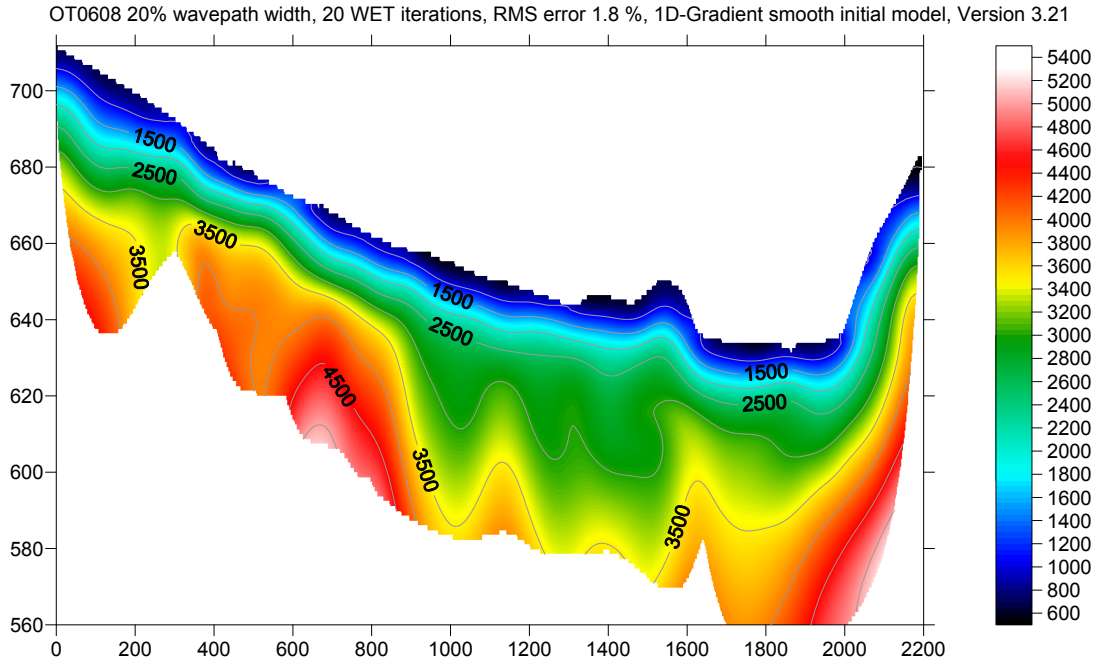
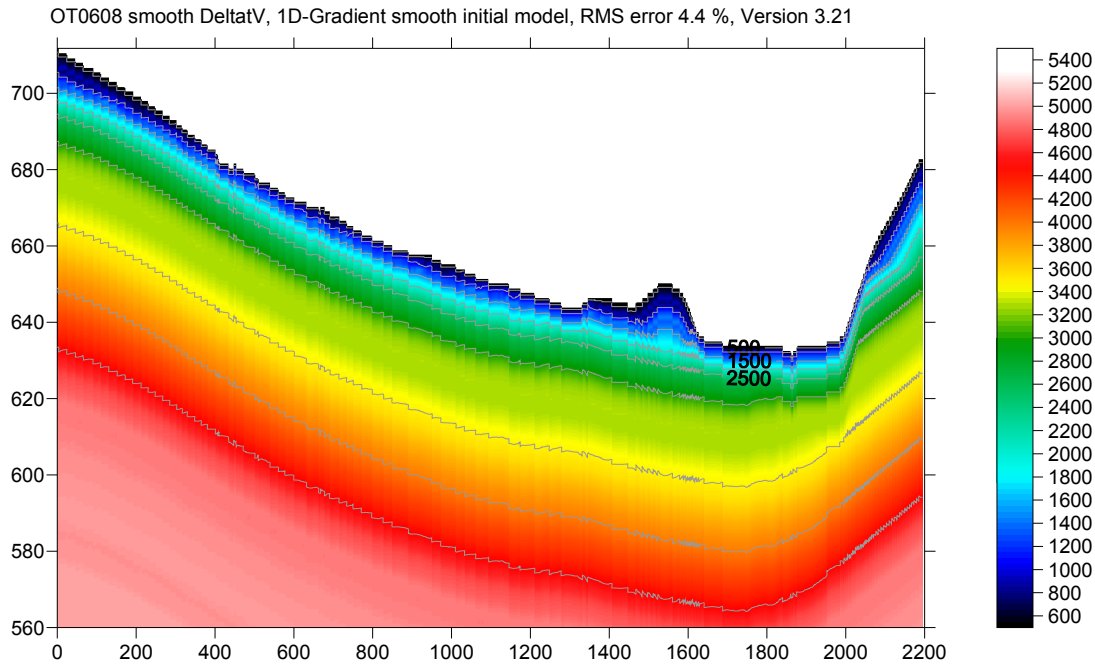
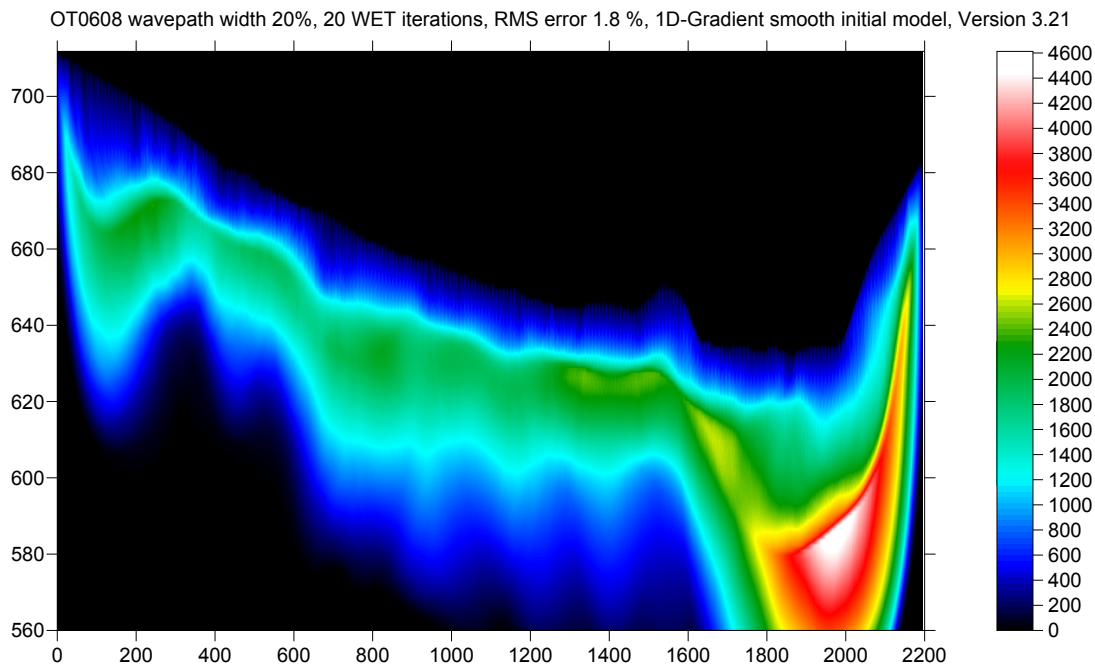
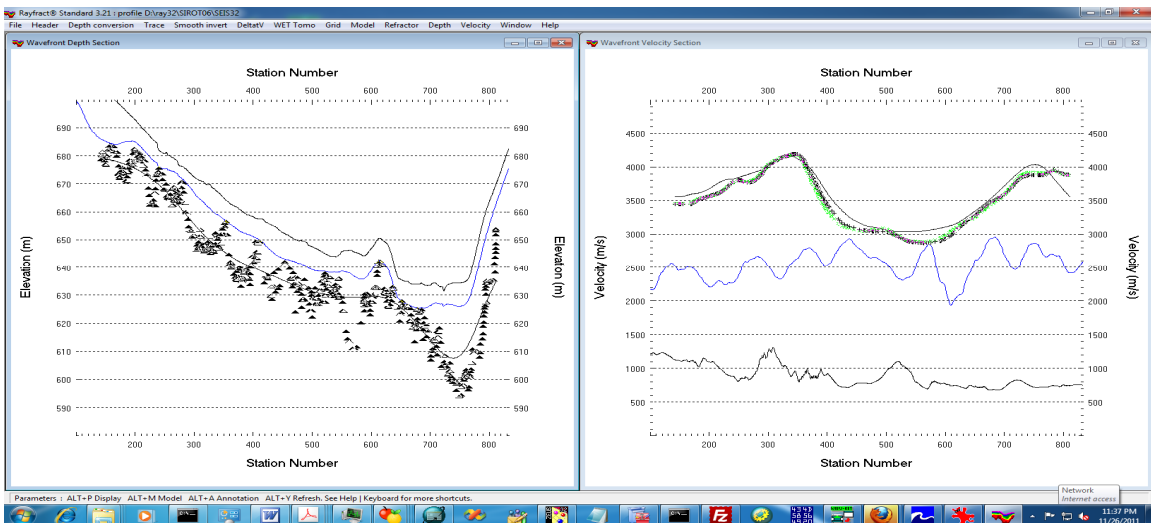

Fig. 1 : Smooth inversion 3.20, wavepath width 20%, 20 WET iterations. Fig. 3 shows 1D initial model used for Fig. 1.
Fig. 3 : 1D initial model used for Fig. 1, with Smooth inversion. Lateral DeltatV averaging, smooth DeltatV settings.
Fig. 4 : WET wavepath coverage, obtained with Smooth inversion (Fig. 1). Coverage of subsurface with first break energy.
Fig. 13 : Wavefront|Depth (left), Wavefront|Velocity (right). Note good match with WET (Fig. 1) and XTV (Fig. 2).
See Fig. 3 for 1D initial model, obtained during Smooth inversion and resulting in Fig. 1. Fig. 4 shows WET wavepath coverage, also obtained with Smooth inversion and Fig. 1.
Note the low wavepath coverage at offset 1000m and elevation 580m (Fig. 4). This is the only location where Fig. 1 and Fig. 2 differ. Low wavepath coverage means locally higher uncertainty, in the obtained WET velocity tomogram (Fig. 1). Wavepaths are almost vertical, similar to reflected rays (Fig. 4).
Processing time for default Smooth inversion (Fig. 1) was about 1 hour on an Intel Core i3. Fig. 2 was obtained in minutes. But DeltatV parameters need to be tuned, to approach Smooth inversion output. So DeltatV imaging is an iterative and more interactive process, when compared to Smooth inversion.
The good match between Fig. 1 and Fig. 2 confirms these two interpretations, obtained with quite different methods.
- Select *Smooth invert|WET with 1D-gradient initial model*, obtain 1D initial model (Fig. 3)
- Confirm prompts to obtain smooth WET output with 20 iterations (Fig. 1 and 4)
- Select *Depth|Wavefront...* (Fig. 13)
- Select *Velocity|Wavefront...* (Fig. 13)
Note the good match between Wavefront refraction (Fig. 13), WET inversion (Fig. 1) and XTV (Fig. 2).